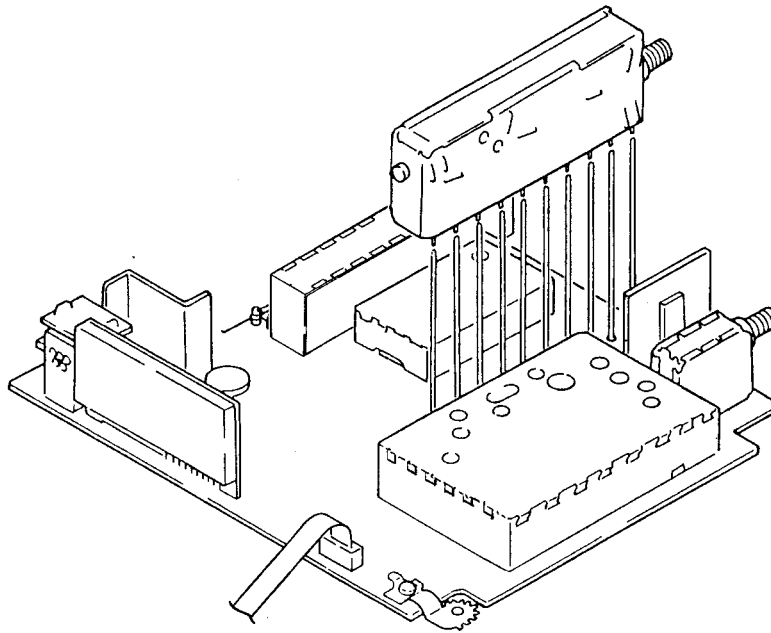

Fig. 1 Connection Method
- These adjustments are performed with the converter assembly connected to the main assembly. Before beginning adjustments, the converter assembly is removed from the main assembly board and reconnected by jumper wires. (Refer to Fig. 1.)